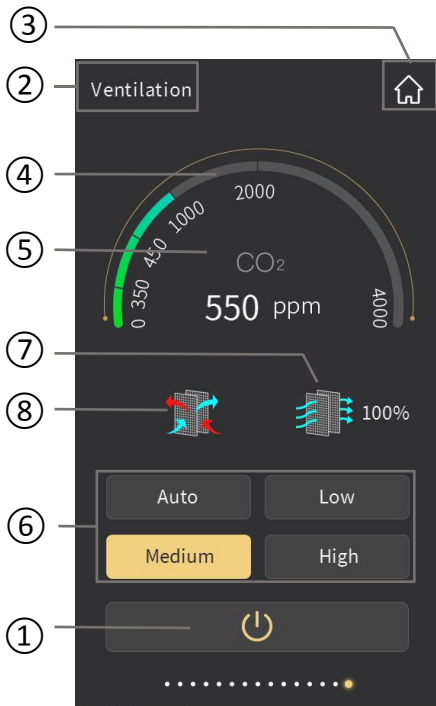
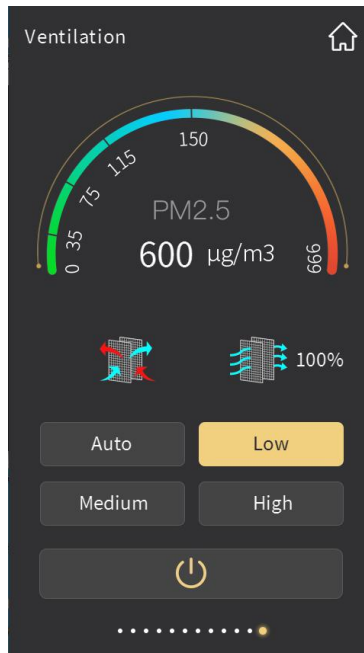
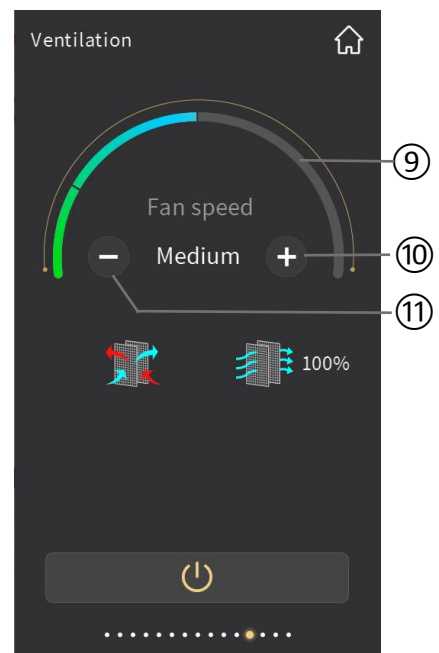

Fig.2.6.1
Fig.2.6.2
Fig.2.6.3
Fig.2.6.1 and Fig.2.6.2.
CO₂ concentration as shown in Fig.2.6.1, according to the value received from the bus, range 0~4000ppm; if the data exceed 4000ppm, then the interface will display 4000ppm.
PM2.5 concentration as shown in Fig.2.6.2, according to the value received from the bus, range 0~999ug/m³; if the data exceed 999ug/m³, then the interface will display 999ug/m³.
There is up to 4 options for fan speed mode: Auto, Low, Medium and High. When fan speed auto control is enable, auto fan speed adjustment will be displayed on the interface, shown as Fig.2.6.1 and Fig.2.6.2. Whether fan speed auto control is enable or not is configured through parameter configuration.
⑦ **This icon is the filter timer icon;**
Whether the filter timer counter function is enable or not is configured through parameter configuration. When disable, there will be no display of filter timer counter function on the interface as shown in Fig.2.6.1; when enable, icon⑦ will be colorful after ventilation system ON, the remaining evaluation value will be displayed next to it. The value will be updated according to the use time, which will be updated through the bus.
⑧ This is the heat recovery icon, used to turn on or off heat recovery function;
Whether heat recovery function of ventilation system is enable or not is configured through parameter configuration. When disable, there will be no display of heat recovery function on the interface as shown in Fig. 2.6.1; when enable, heat recovery function is turned on by default when ventilation system is ON, and the heat recovery function can be turned on or off by touching icon⑧. The icon on indicates that the heat recovery is on; the icon off indicates that the heat recovery is off. In addition, heat recovery function can be turned on or off through the bus. And there would be no responding after enable heat recovery function.
⑨ This ring bar displays specific fan speed level;
⑩ To increase fan speed level by touching this icon ;
⑪ To decrease fan speed level by touching this icon.
When fan speed is not configured as auto, as shown in Fig.2.6.3, by touching icon⑩ and icon⑪ to adjust fan speed; for each touch of icon⑩ and icon⑪ to adjust one level, there are 3 modes of fan speed: Low, Medium and High. At this time, the adjustment is manually, not automatically according to the concentration of CO₂ or PM2.5.